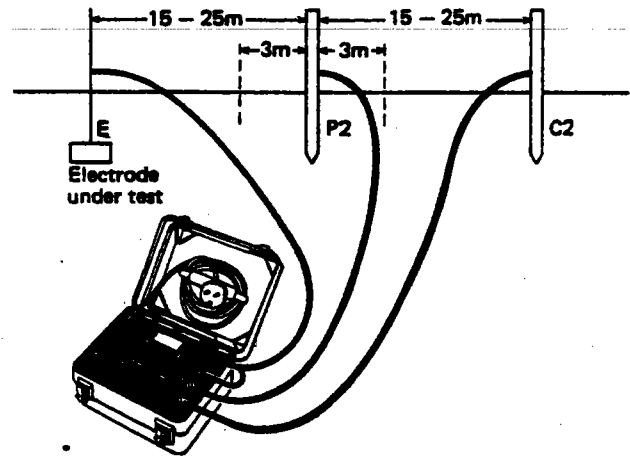

Figure 2 Resistance to earth of an earth electrode
1. NORMAL METHOD OF TEST FOR SMALL EARTHING ELECTRODES (see fig. 2)